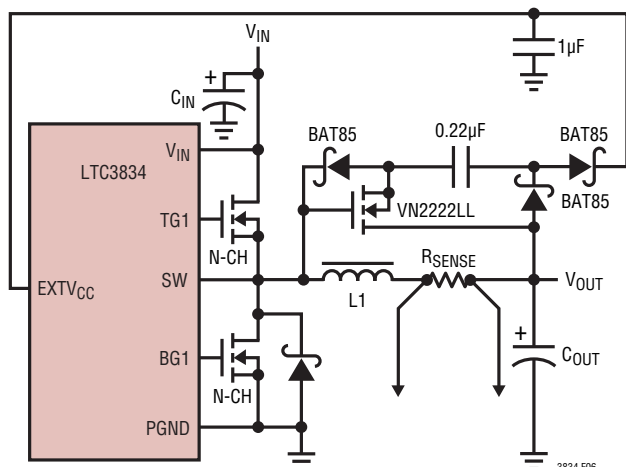

Figure 6. Capacitive Charge Pump for EXTV_{CC}
The optional Schottky diode D1 shown in Figure 6 conducts during the dead-time between the conduction of the two power MOSFETs. This prevents the body diode of the bottom MOSFET from turning on, storing charge during the dead-time and requiring a reverse recovery period that could cost as much as 3% in efficiency at high V_{IN} . A 1A to 3A Schottky is generally a good compromise for both regions of operation due to the relatively small average current. Larger diodes result in additional transition losses due to their larger junction capacitance.
4. EXTV_{CC} Connected to an Output-Derived Boost Network. For 3.3V and other low voltage regulators, efficiency gains can still be realized by connecting EXTV_{CC} to an output-derived voltage that has been boosted to greater than 4.7V. This can be done with the capacitive charge pump shown in Figure 6.